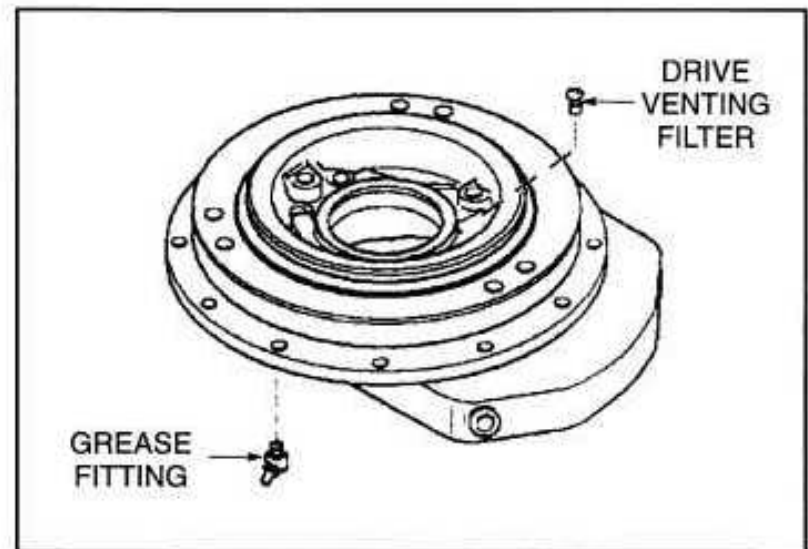

Figure 4-21 – Install Drive Venting Filter and Grease Fitting
49. Install the drive venting filter as far as possible into the upper part of the MDU. See Figure 4-21.
50. Install grease fitting. See Figure 4-21.